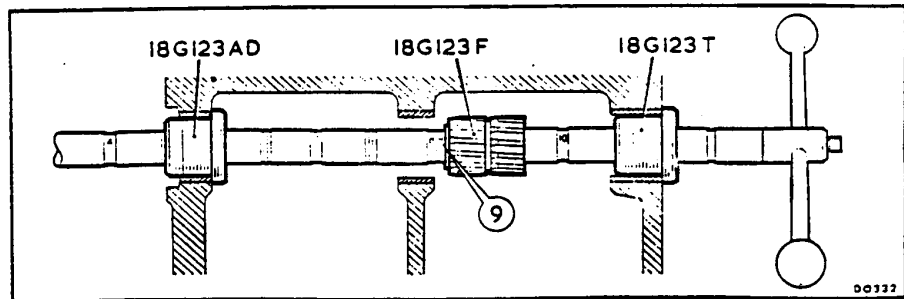

Fig. 8
8. Ream the centre bearing liner, using the tools shown in Fig. 8.